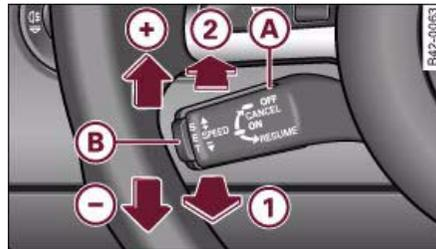

Fig. 75 Controls for the cruise control system
- Pull the lever (A) to position ⇒ fig. 75 (1) to switch on the system.
- Briefly press button (B).
- Move the lever (A) up towards ⇒ fig. 75 (+).
- Move the lever (A) down towards ⇒ fig. 75 (-).
You can increase the set speed in steps of 2 km/h by briefly pressing the lever (A) up towards ⇒ fig. 75 (+).
You can decrease the set speed in steps of 2 km/h by briefly pressing the lever (A) down towards ⇒ fig. 75 (-). ■
- Press the lever **A** ⇒ page 87, fig. 75 to position **2** (click stop not engaged).
If no speed was stored when the system was temporarily deactivated, a new speed can be set as follows: drive at the desired cruising speed and briefly press button ⇒ page 87, fig. 75 **B** (SET).
- Press the lever **A** ⇒ page 87, fig. 75 to position **2** (click stop engaged).